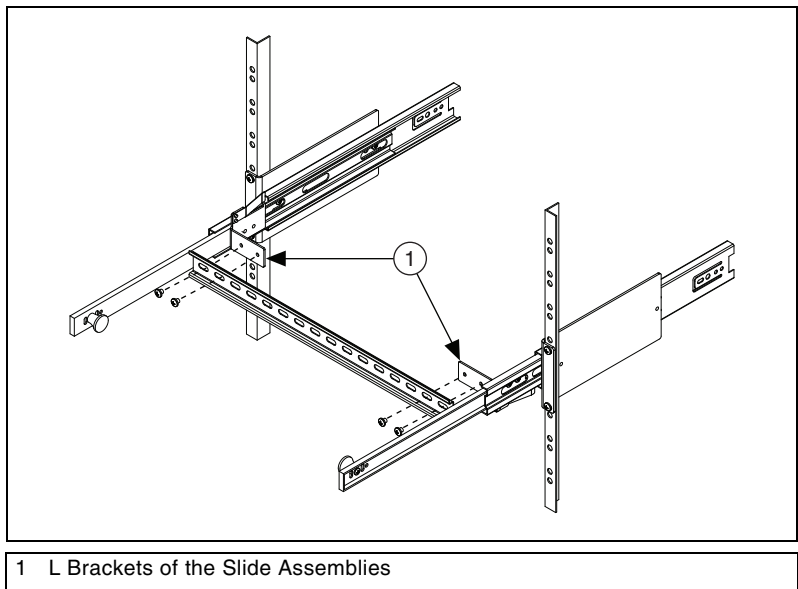

Figure 4. Mounting the DIN Rail to the L Brackets of the Slide Assemblies
3. Use a #2 Phillips screwdriver and the four M6×8 screws to attach the DIN rail to the L brackets on the slide assemblies, as shown in Figure 4.